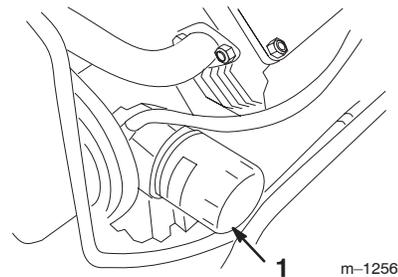

Figure 31
3. Remove the old filter (Fig. 31) and wipe the surface of the filter adapter gasket.